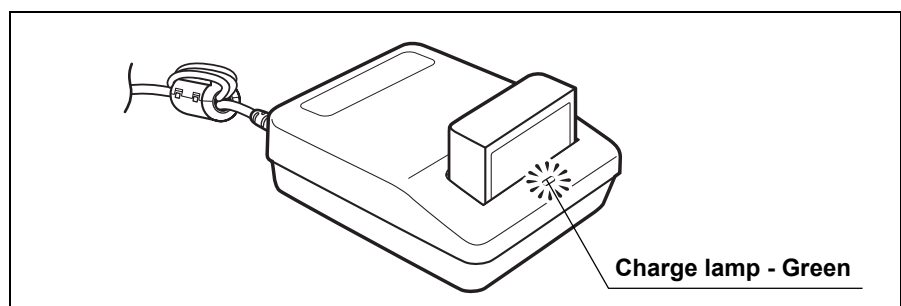

Figure 5.4
5. When recharging is complete, the charge lamp turns from yellow to green (see Figure 5.4).